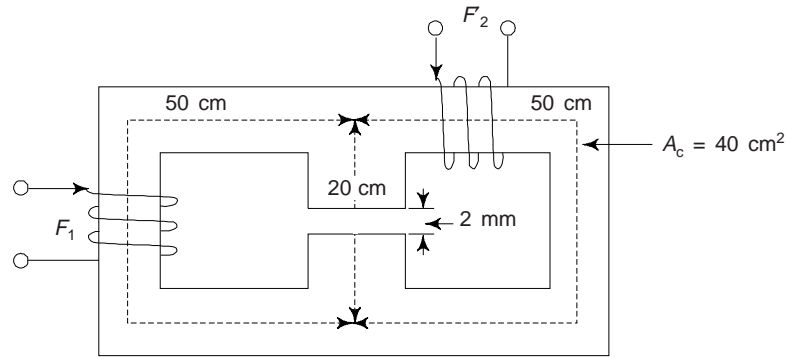

Fig. P2.6
2.6 In the magnetic circuit shown in Fig. P2.6, the coil F_1 is supplying 4000 AT in the direction indicated. Find the AT of coil F_2 and current direction to produce air-gap flux of 4 mWb from top to bottom. The relative permeability of iron may be taken as 2500 .